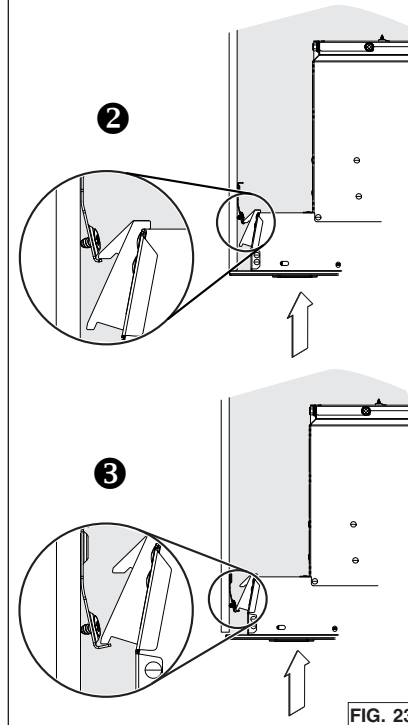

FIG. 23
2. Insert the unit in the cabinet, until you feel a 'click' from both sides of the unit, confirming that the Ease of Install hooks rest on the top of the cabinet bottom sides ①, or cabinet brackets ② or ③ (FIG. 23). Move the unit from left to right, from rear to front and up to ensure the Ease of Install hooks are retaining the unit inside the cabinet. NOTE: The unit will be protruding below the cabinetry until tightened.